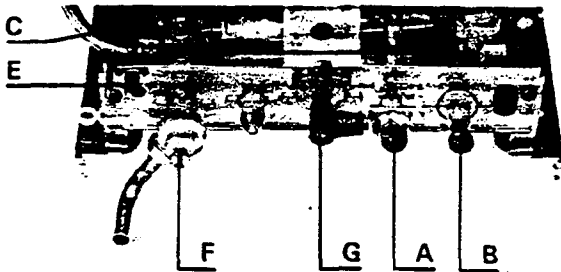

Fig. 34
- 1) Ensure that the isolating valves are open (fig. 34 B and C). **N.B.** Valve (C) must be turned anti-clockwise by the knurled shaft until it dislocates from the thread and then pulled out horizontally to its extremity (approximately 30 mm (1 1/4 ins)).
- 4) Vent air separator by loosening screw (fig. 34) (E) and purging until no air is apparent **N.B.** : ensure screw E is tightened.
- 2) Turn the lever on the gas service tap (fig. 34) (G) to the left. In the open position the flame sign is to the front.
- 4) Switch to HOT WATER + CENTRAL HEATING (II) on the selector switch (A). The fan will run at low speed.
- 5) Press the ignition button (R) and hold in.